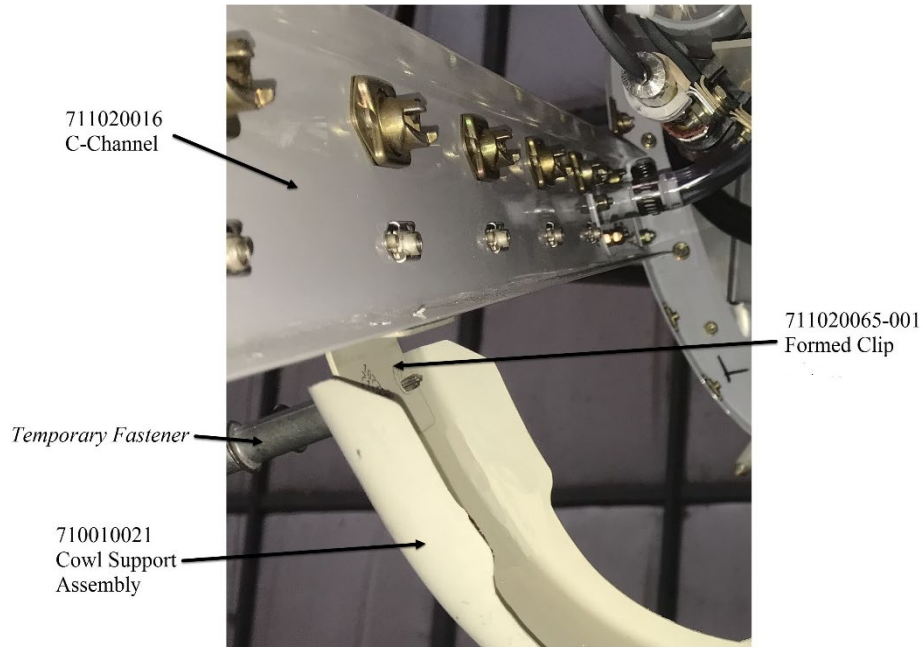

Figure 8-13
- L. Temporarily fasten Formed Clip into C-Channel. Drill (4) .166" dia. holes through Formed Clip pilot holes into C-Channel. See Figure 8-13.